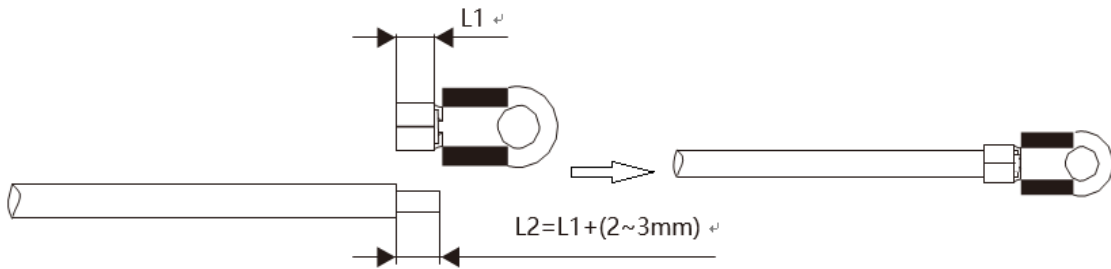

Figure 3-6 Strip off PE cables
(2) Strip off PE cable as figure 3-6